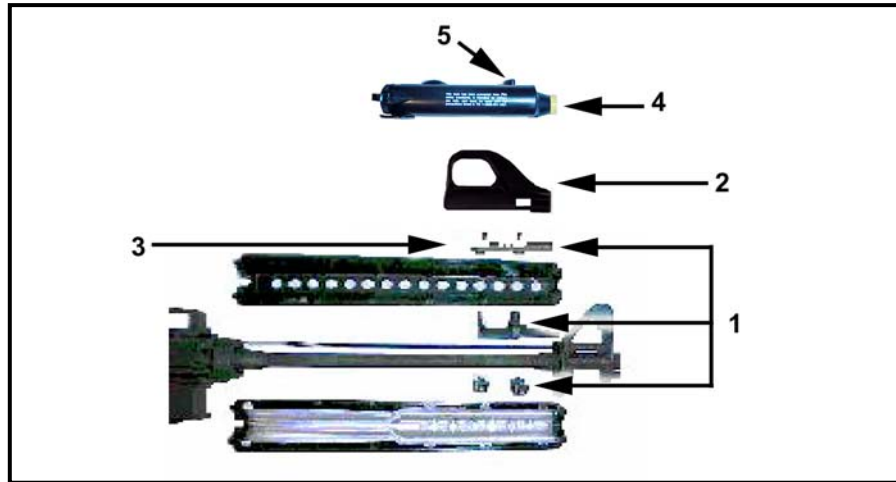

Figure 2-28. Mounting the AN/PAQ-4B/C on the M16A1/A2/A3 and M4 carbine.
a. **M16A1/A2/A3 Rifle** (Figure 2-28). The armorer must install the bracket assembly (1). The switch lever shroud (2) is aligned with the notches on the mounting rail (3). Lower the on/off switch. The AN/PAQ-4B/C (4) is then aligned with the notches on the switch lever shroud and hand tightened using the thumbscrew (5). Tool tightening is recommended to ensure zero retention if the thumbscrew is metal. The plastic thumbscrew must be hand tightened to avoid breakage. Retightening of the thumbscrew is recommended after a few rounds have been fired to ensure zero retention. The remote switch should be attached to the weapon where it is most convenient for the firer without interfering with the functioning of the weapon or hindering the firer's ability to fire the weapon.